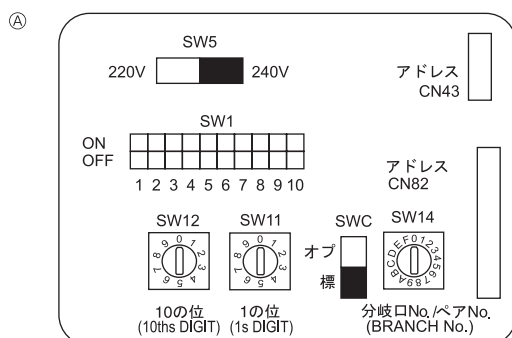

Fig. 4-4
① MA Remote controller
② M-NET Remote controller
④ Terminal block for indoor transmission cable
⑤ Terminal block for outdoor transmission cable
⑥ Remote controller
4.5. Setting addresses (Fig. 4-4)
④ Address board
4.6. Sensing room temperature with the built-in sensor in a remote controller (Fig. 4-4)